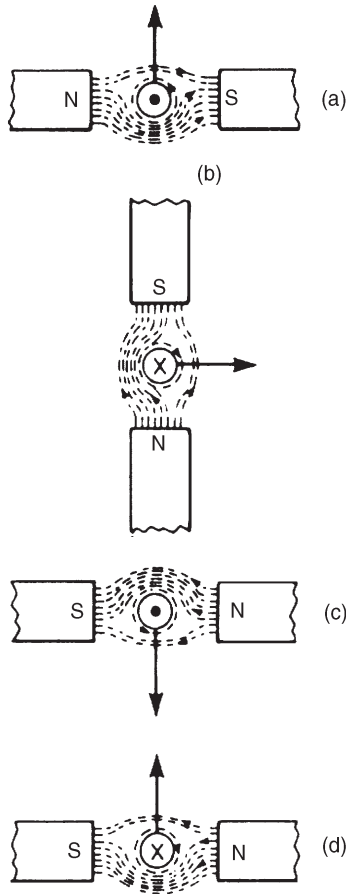

Figure 8.16
- The direction of the main magnetic field is from north to south, i.e. left to right. The current is flowing towards the viewer, and using the screw rule, the direction of the field is anticlockwise. Hence either by Fleming's left-hand rule, or by sketching the interacting magnetic field as shown in Figure 8.16(a), the direction of the force on the conductor is seen to be upward.
- Using a similar method to part (a) it is seen that the force on the conductor is to the right — see Figure 8.16(b).
- Using Fleming's left-hand rule, or by sketching as in Figure 8.16(c), it is seen that the current is toward the viewer, i.e. out of the paper.
- Similar to part (c), the polarity of the magnetic system is as shown in Figure 8.16(d).